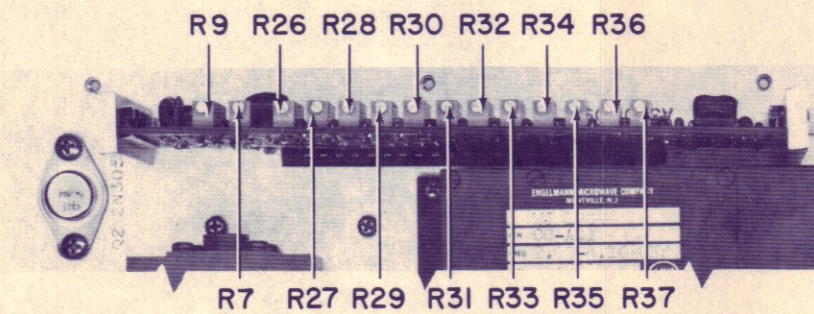

Figure 4-1g. YIG Tracking Potentiometer Locations
- (1) Tune the TH-480B to 4000 MHz.
- (2) Measure and note the voltages at pins 6 through 17 of XA3. Table 4-3 illustrates typical readings for a correctly aligned shaper. These voltages will not be identical for every YIG filter. However, the voltages should vary as shown, i.e., the voltage at pin 7 is greater than that at pin 6, and the voltage at pin 8 is greater than that at pin 7, etc.
- (3) If the measured voltage differs by a significant amount, or a new YIG filter has been installed, set the voltages to the readings shown in Table 4-3 using the appropriate potentiometers. Figure 4-1g, shows the potentiometer locations.